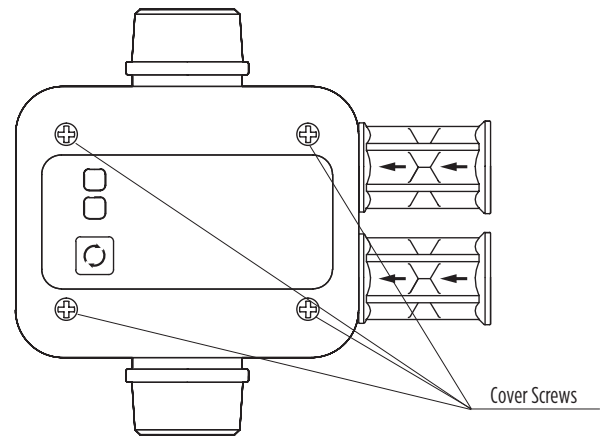

Figure 6
4. Remove the cover of the device by removing the screws as shown in Figure 6. Cover features and label may vary based on your model.